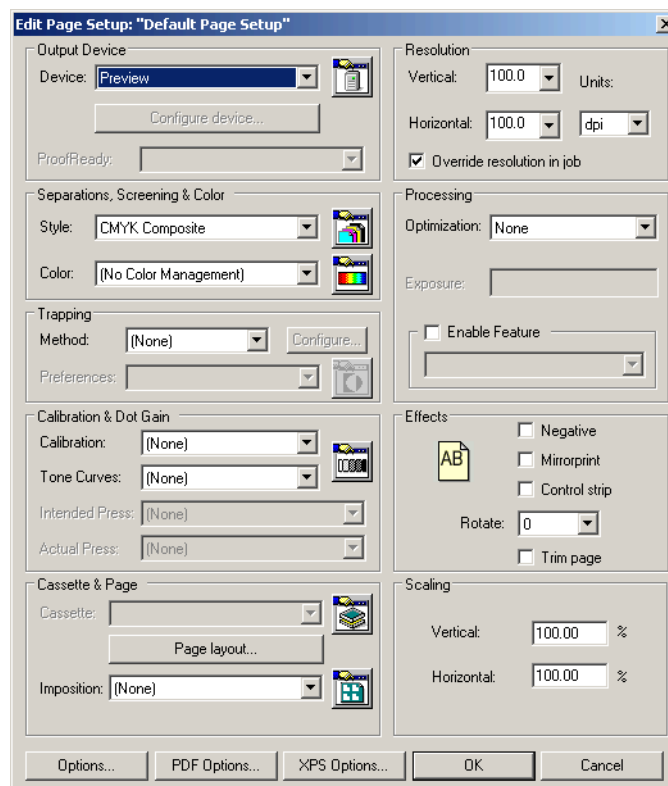

Figure 6 Page Setup dialog
2. In the Page Setup Manager, click New to create a new page setup (or Edit to amend an existing page setup), to open the New/Edit Page Setup dialog (Figure 6).